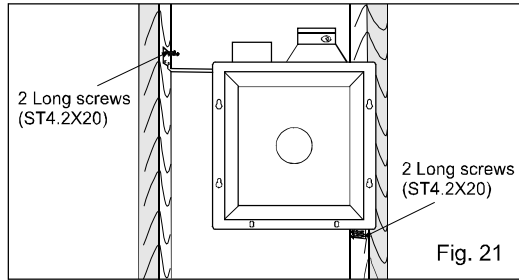

Fig. 21
- Secure the fan body to the studs by using long screws (ST4.2X20) (refer to step 5 to step 7 of installation II of page 7). (Fig. 21)